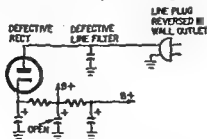

Fig. H-5. Some of the simpler causes of hum can be traced to the power supply.
**Service:** There are numerous causes of hum originating in the power supply of a radio receiver. These range from simple to complex troubles (Fig. H-5). The most common are a line-cord plug reversed in the wall outlet, defective electrolytic filter and line filter capacitor, defective rectifier, a defective filter choke or power transformer, or choke and transformer positioned too close to the audio transformer (they should be at opposite ends of the chassis).